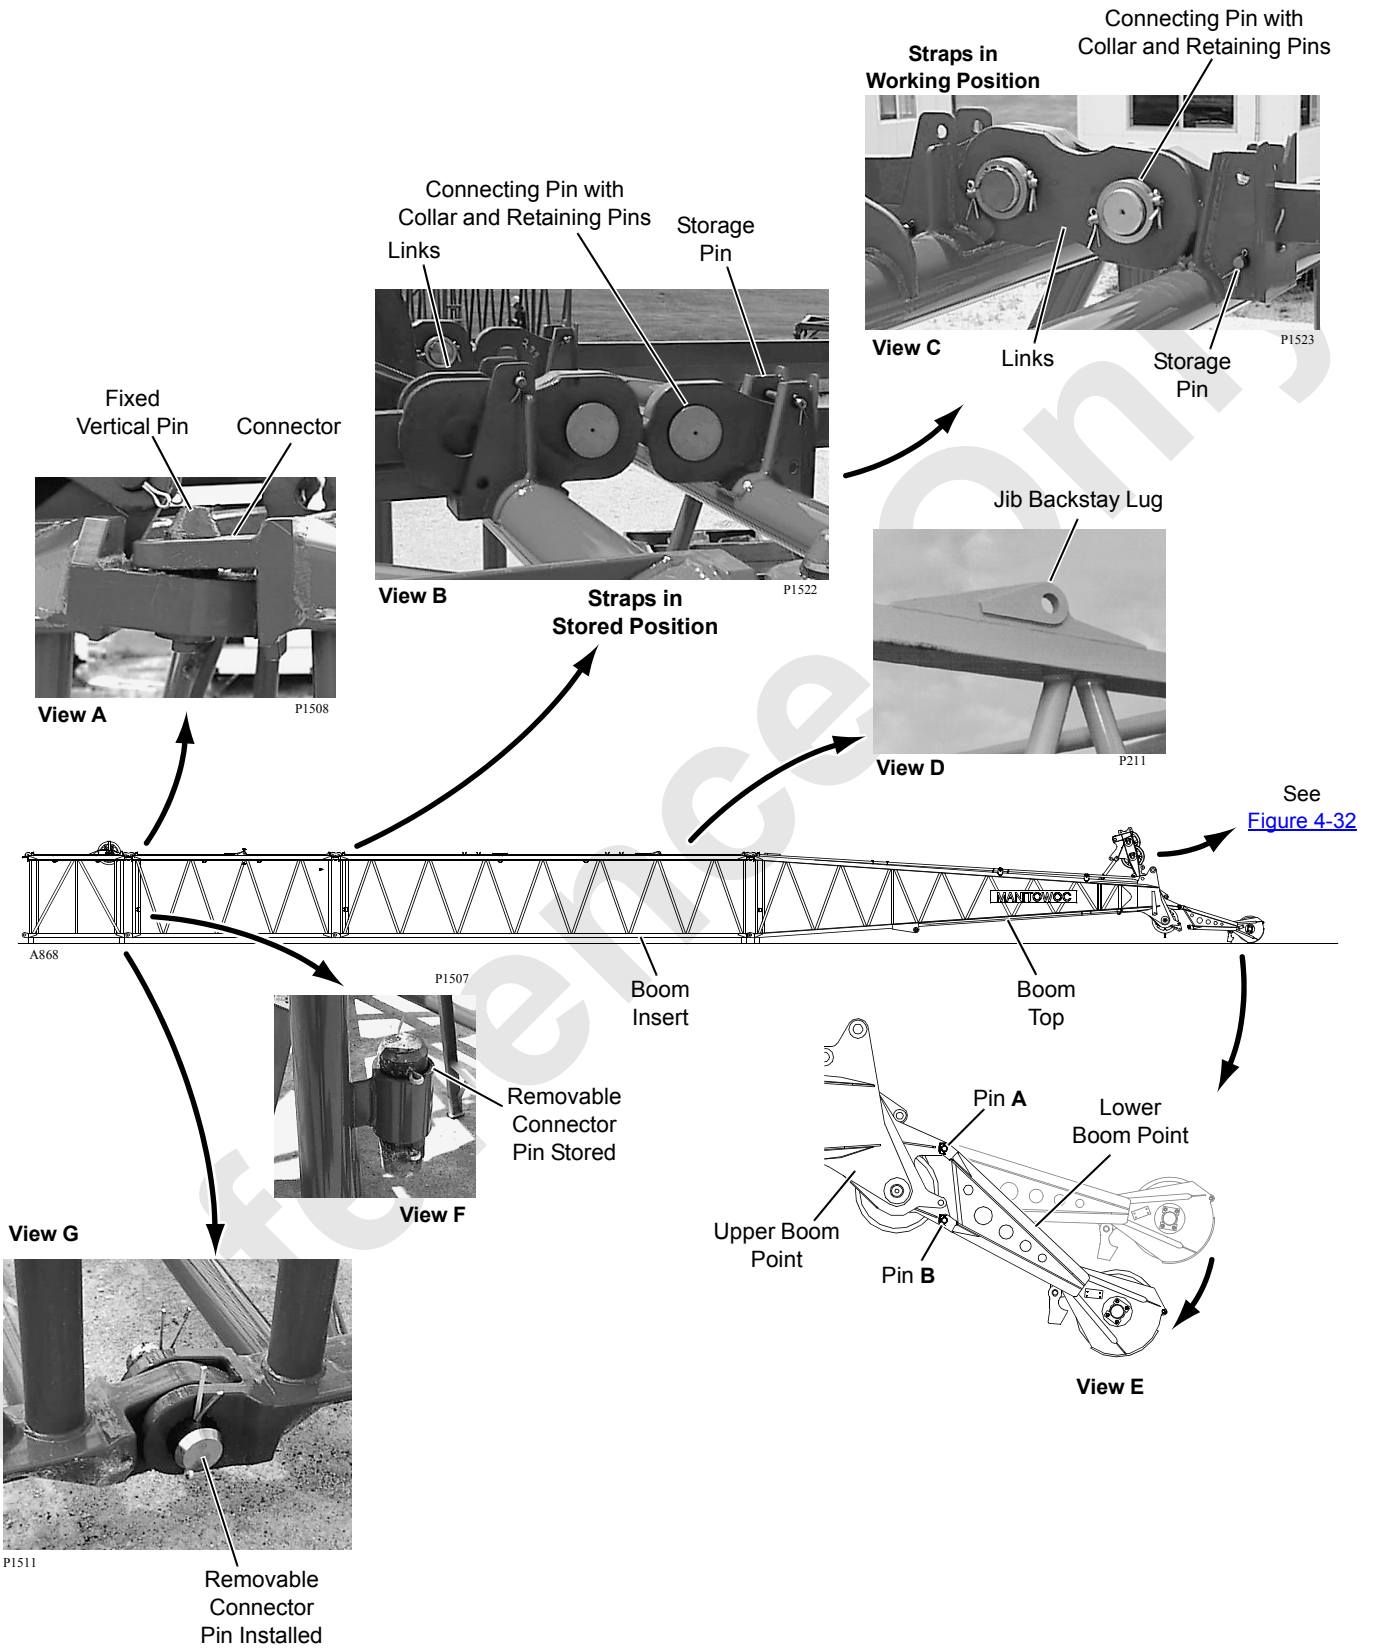

FIGURE 4-31
1. Before you start assembling boom, determine if a fixed jib will be installed. If so, install insert with backstay lugs (Figure 4-31, View D) next to boom top.
See Figure 4-31 for the following procedure.
- **If equipped with an upper boom point**, remove lower connecting pins (B, Figure 4-31, View E) before upper point contacts ground.
- Store boom straps and links as shown in Figure 4-31, View B.